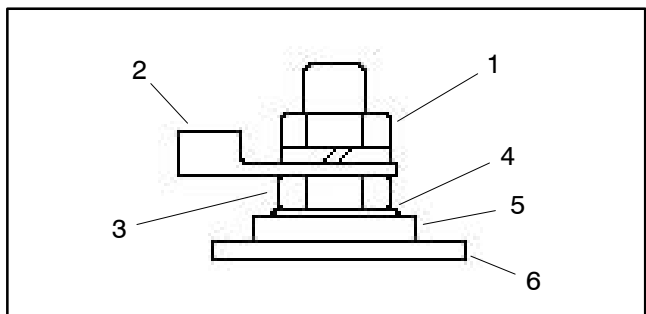

Figure 56
A. Make sure that fasteners and cable connectors are properly positioned on motor terminals (Fig. 56).